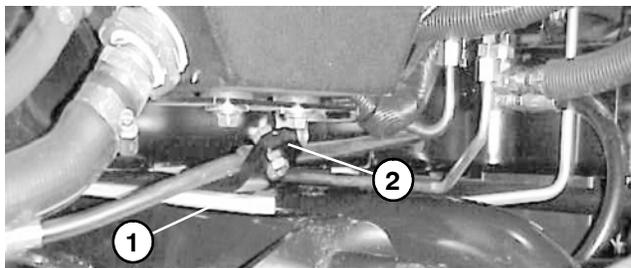

Figure 8
2. Raise lift arms. Make sure clearance between one end of wear strip and bumper bar on frame is from **.020 to .100 inch (0.51 to 2.54 mm)** when other end of wear strip is in contact with bumper bar (Fig. 8).